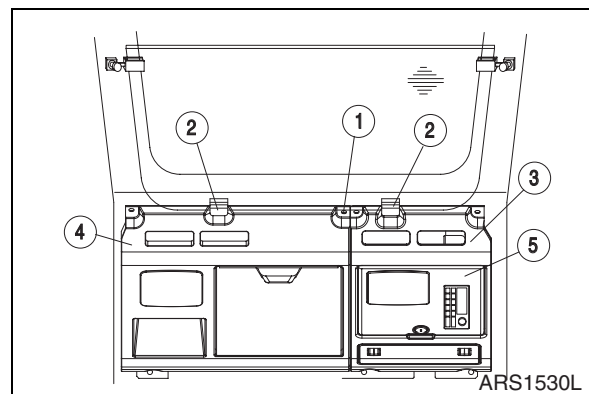

Figure 4
18. Remove cover (5, Figure 4) on left side dash cover (3) and bolts (1, Figure 5).
19. Remove two rubber stops (2, Figure 4) used in storing the front lower glass. Remove bolts (1) from the rear left and right dash covers. Remove left side cover (3).
20. Lift right side dash cover (4, Figure 4) and disconnect speaker wire. Remove cover.